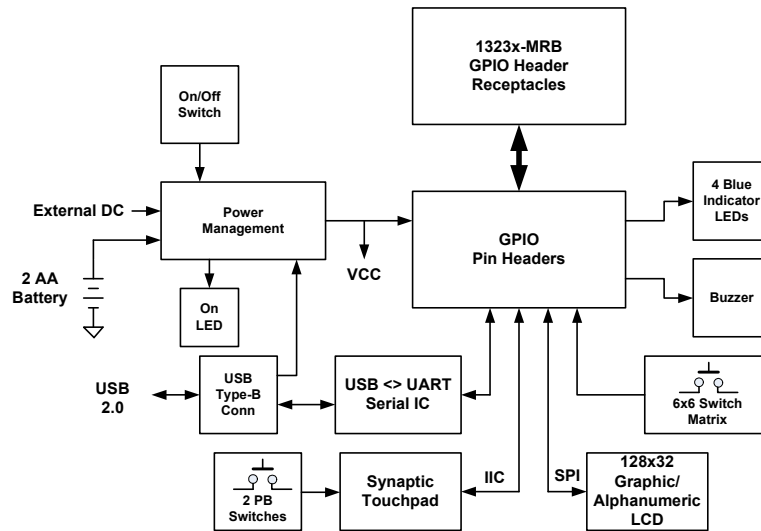

Figure 4-2. 1323x-RCM Block Diagram
The 1323x-RCM is a host motherboard for the 1323x-MRB. The two-board combination provides a powerful evaluation and development platform for the MC13233. Figure 4-2 shows a simple block diagram. The 4-layer board provides a flexible power supply, 36 pushbutton matrix, 128x32 LCD, Touchpad sensor, 3-axis accelerometer, four indicator LEDs, buzzer, and a USB  $\leftrightarrow$  UART serial port.
- Figure 4-2 for the functional blocks